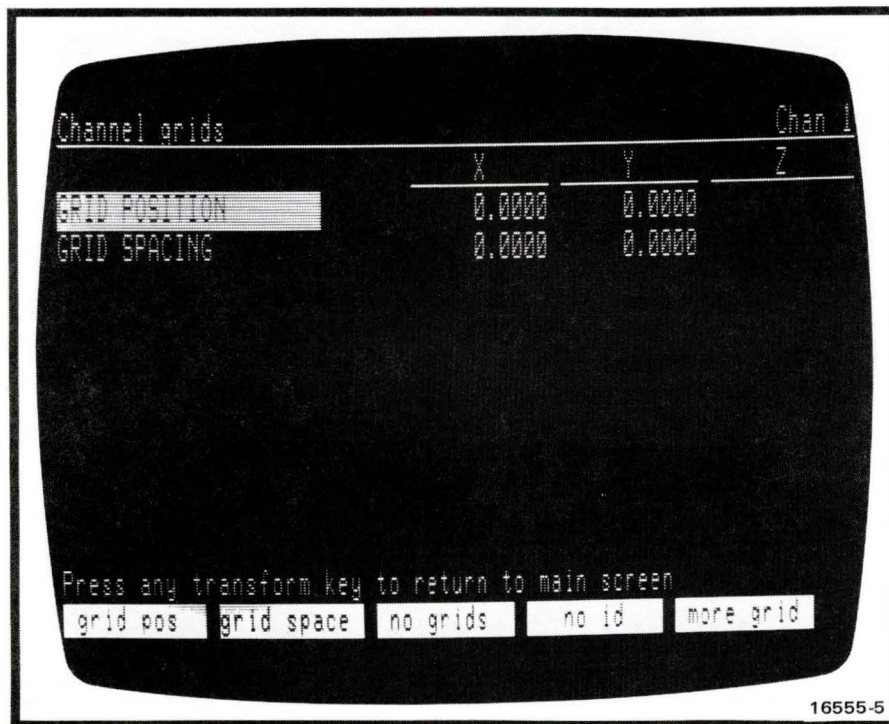

Figure 2-15. Channel Grids Menu
**grid pos** brings up channel grids menu (see Figure 2-15) to allow setting grid position.